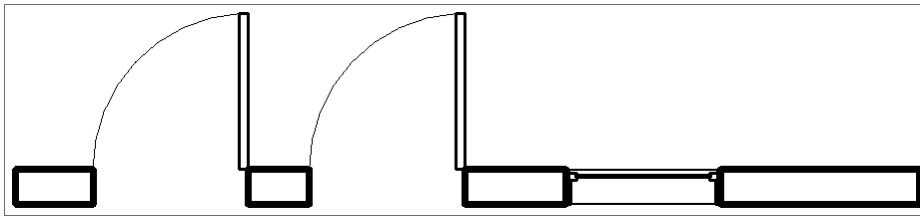

FIGURE 2.10 Hosted window
2. Select the Window tool on the Architecture tab's Build panel. Hover over the same wall, and place a window as shown in Figure 2.10. As with any hosted element, you can place it only within a host.